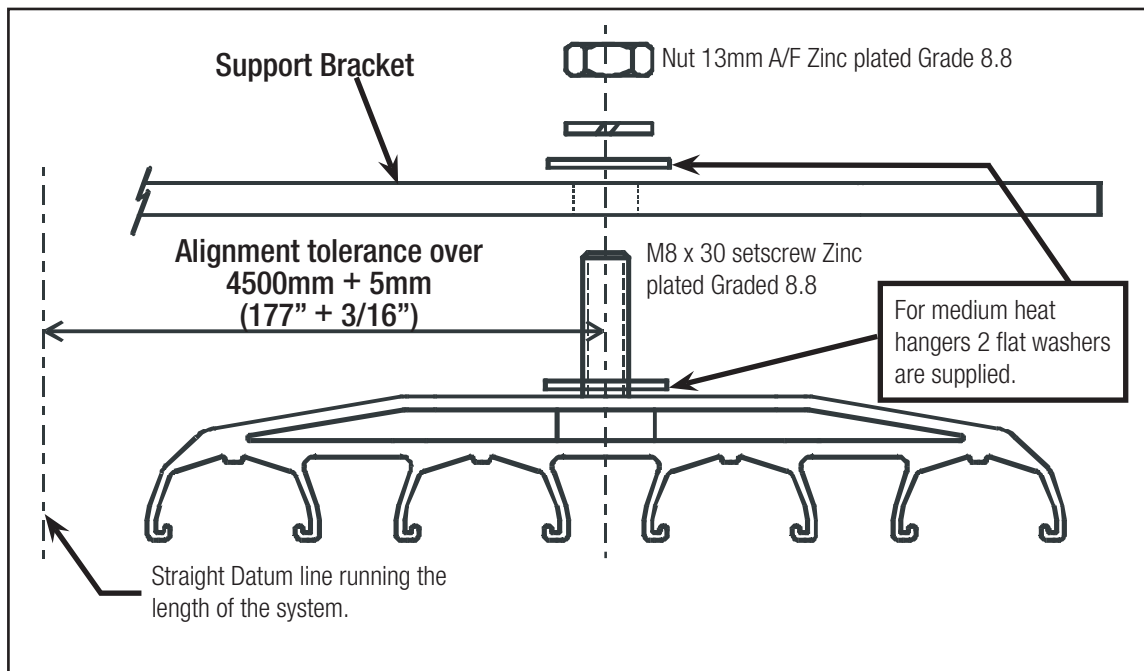

Figure 14-1
2. Assemble as shown in the diagram ensuring the correct alignment is observed. See **Figure 14-1**.